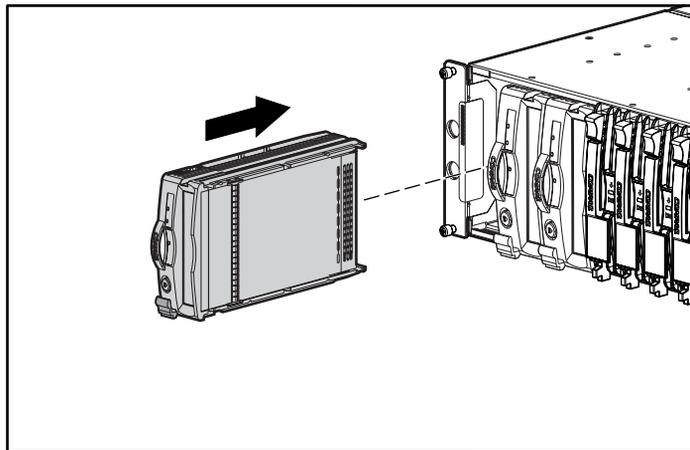

Figure 2. Rack-mount installation
5. Install the new tape drive into the same slot. Simply slide the drive into the slot until it is firmly seated into the connector and the release latch snaps into place. See Figures 2 through 4.